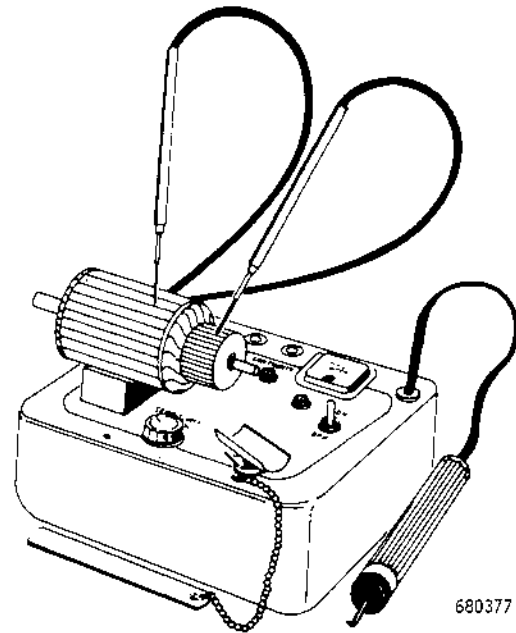

Figure 30 - Armature Ground Test
1. Place armature in growler of tester. Turn on power, Figure 30.